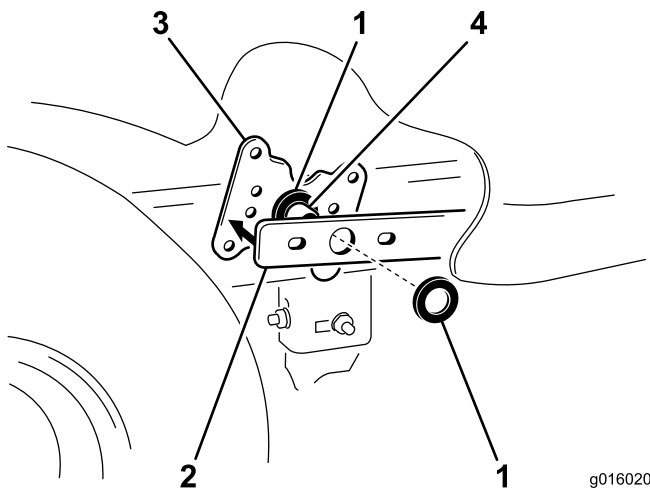

Figure 3
4. Install a thrust washer over the pivot rod on the lift lever (Figure 3). Install the lift arm back to the lift lever face and washer. Cover the lift arm with another thrust washer.